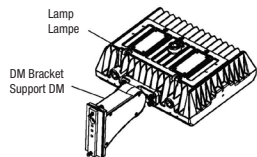

Figure 29
Step 1: Install the bracket on the lamp. (Figure 29).